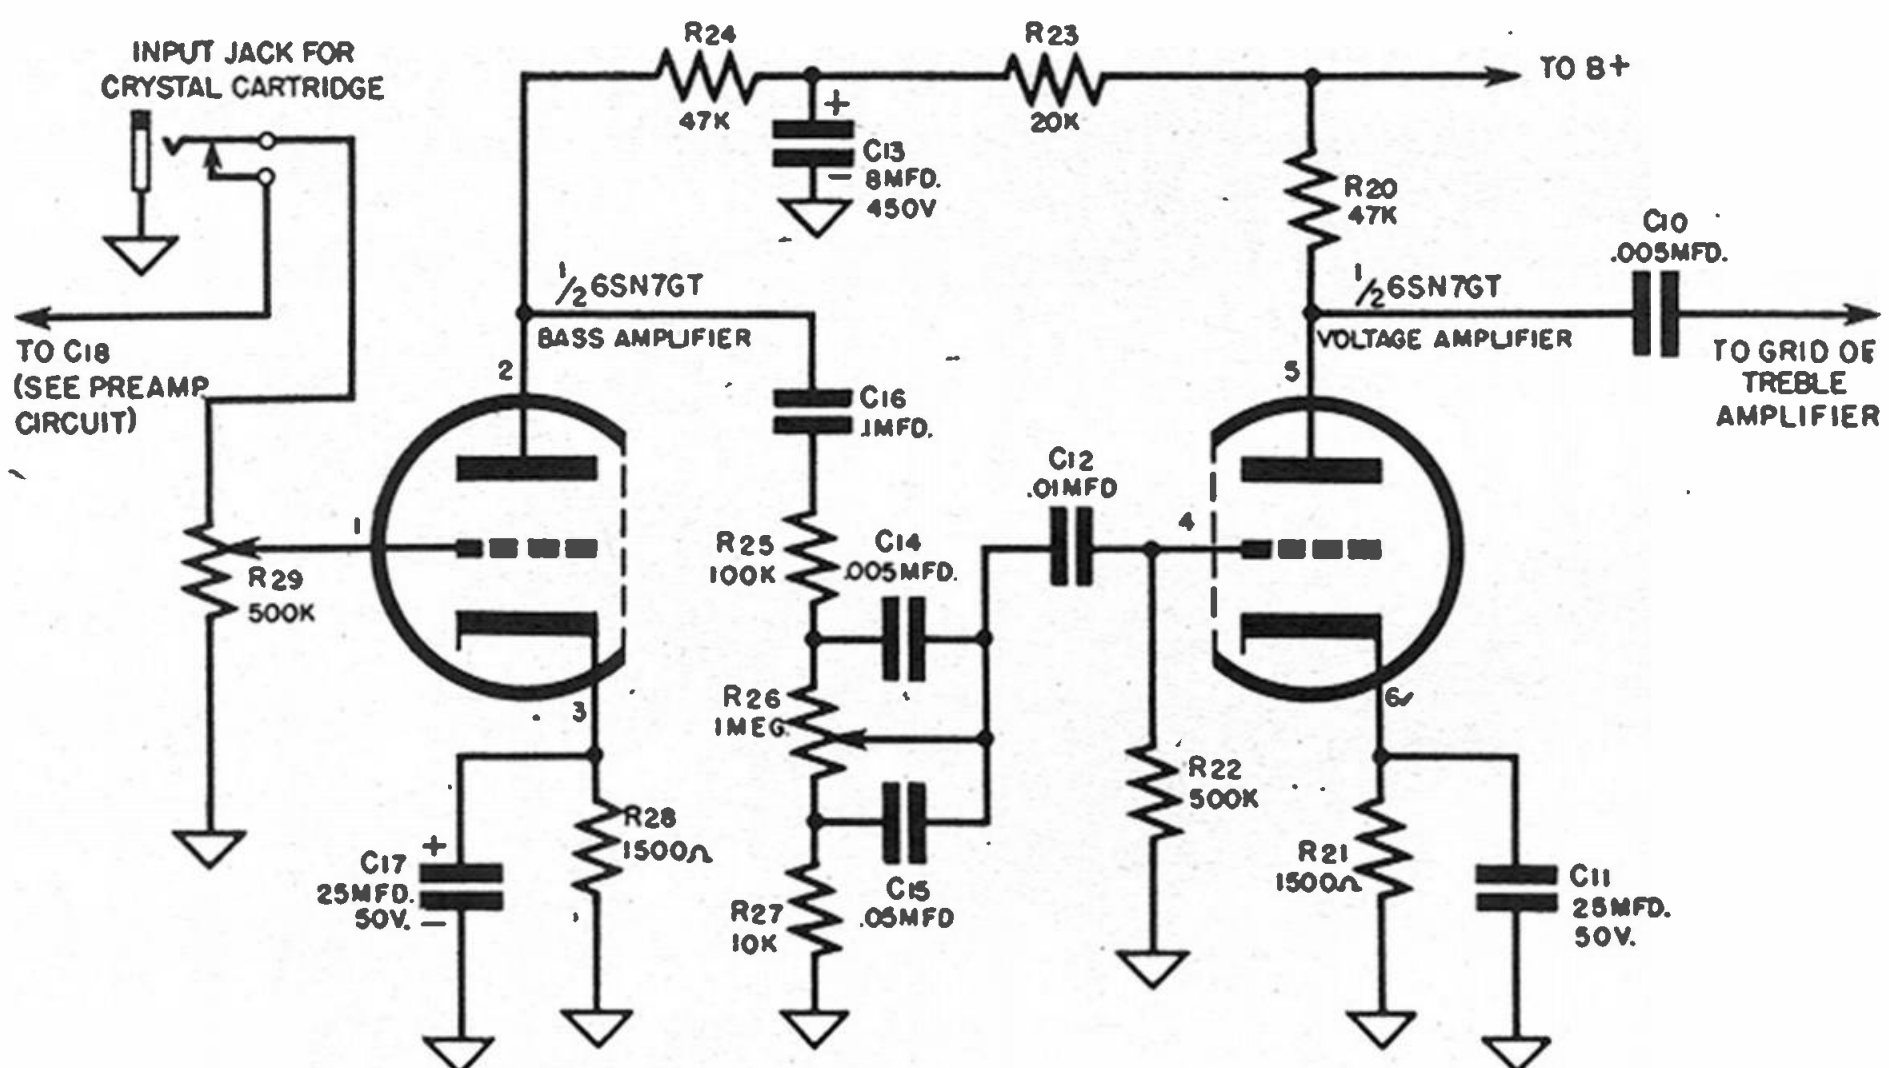

Fig. 5-27. Bass amplifier-voltage amplifier circuit.
f) *Bass Amplifier-Voltage Amplifier.* See Figure 5-27.